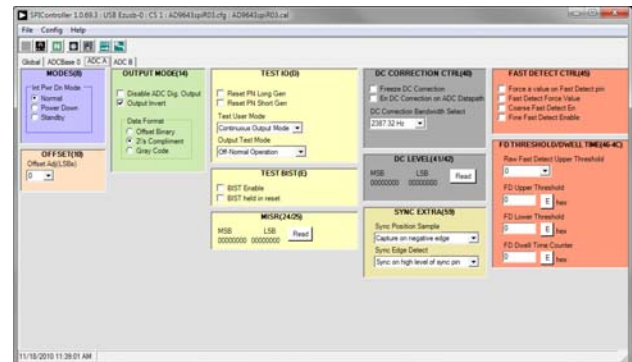
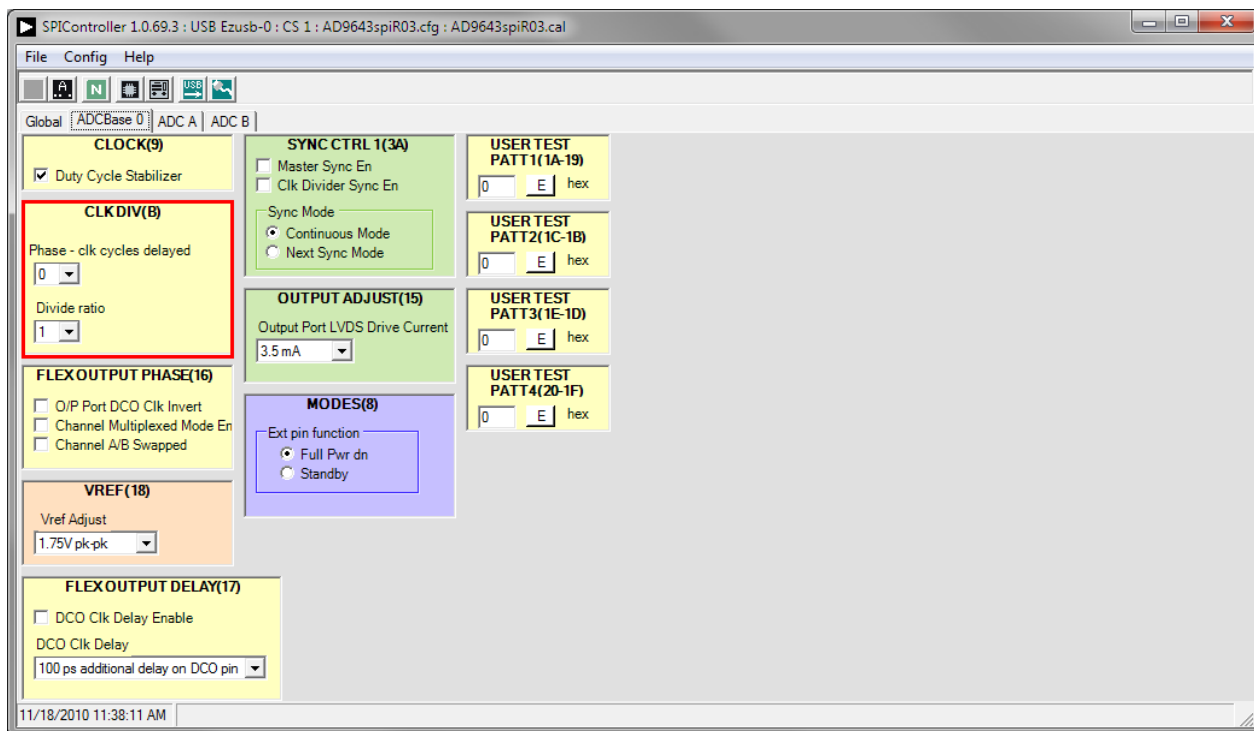

Figure 10. SPI Controller, Example ADC A Tab
Figure 11. SPI Controller, CLK DIV(B) Section
- In the **ADCBASE 0** tab of the **SPIController** window, find the **CLK DIV(B)** section (see Figure 11). If using the clock divider, use the drop-down box to select the correct clock divide ratio, if necessary. See the appropriate device data sheet; the AN-878 Application Note, High Speed ADC SPI Control Software; and the AN-877 Application Note, Interfacing to High Speed ADCs via SPI, for additional information.
- Note that other settings can be changed on the **ADCBASE 0** tab (see Figure 11) and the **ADC A** and **ADC B** tabs (see Figure 10) to set up the device in the desired mode. The settings on the **ADCBASE 0** tab affect the entire device, whereas the settings on the **ADC A** and **ADC B** pages affect the selected channel only. See the appropriate device data sheet; the AN-878 Application Note, High Speed ADC SPI Control Software; and the AN-877 Application Note, Interfacing to High Speed ADCs via SPI, for additional information on the available settings.